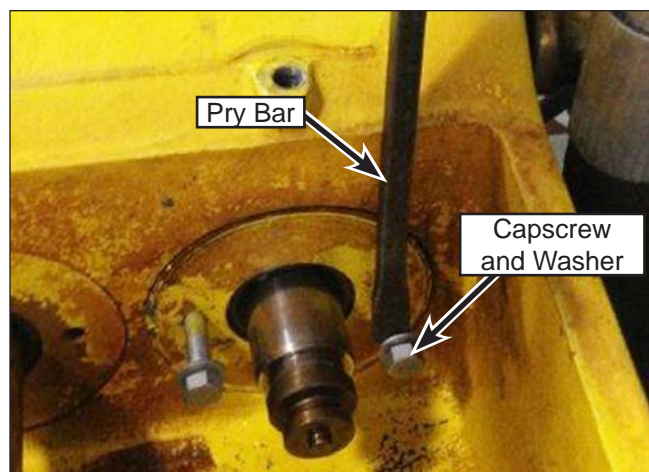

Figure 102: Seal Plate Removal.
11. Install two 1/2"-13 UNC capscrews (Figure 102) into the seal plate.